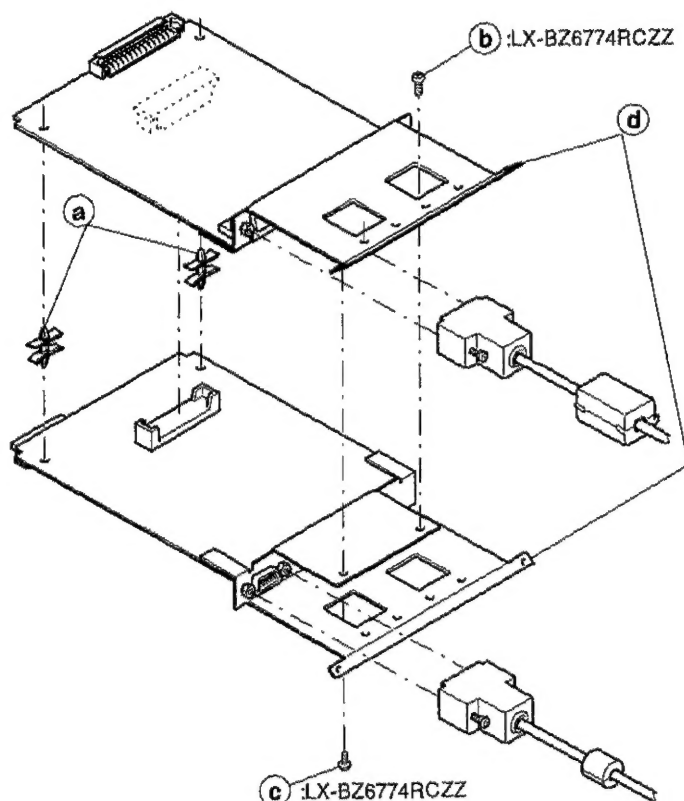

Fig. 3
- ① Insert two spacers (a) and connect the connectors of the interface PWB together (Fig.3).